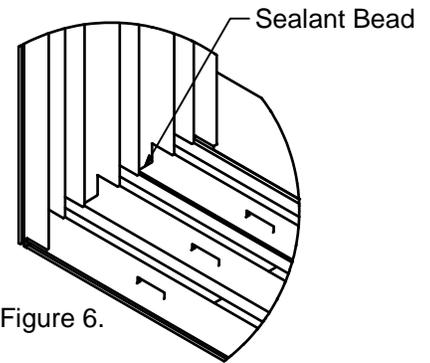

Figure 6.
Step 9. (Frame Corner Sealant) Once all installation screws have been properly installed, apply a bead of sealant and tool at both frame sill to frame jamb joints (See Figure 6).